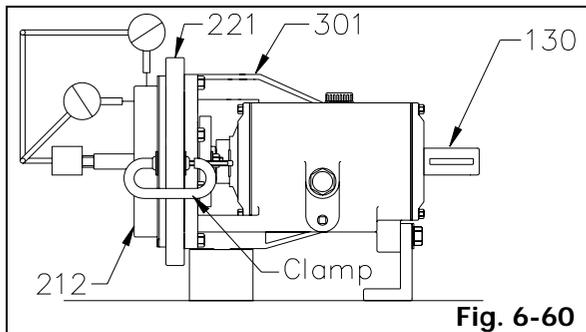

Fig. 6-60
5. Check stuffing box cover (212) run out. Clamp stuffing box cover (212) tight to bearing bracket (301) or adaptor extension ring (221). Rotate shaft (130) through 360°. If total indicator reading is greater than 0.13mm, determine cause and correct before proceeding (Fig. 6-60).